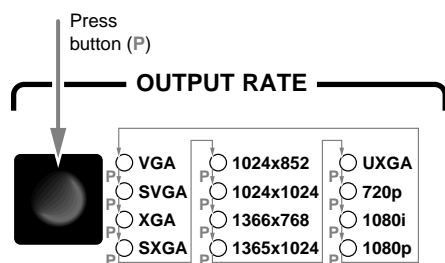

Figure 10. Output Rate Buttons
- ③ **Output Rate button** — The Output Rate button (figure 10) cycles through the available output screen resolutions. Use this button to select the native resolution of the connected video display device. The switcher defaults to a refresh rate of 60 Hz with each resolution selection using the Output Rate button.